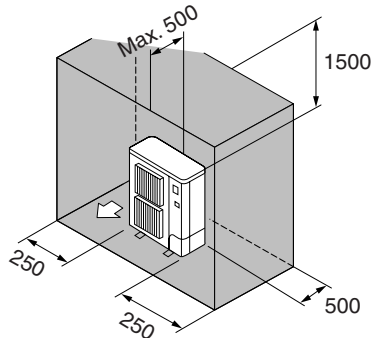

Fig. 3-10
- ⑥ Obstacles at rear, sides, and above only (Fig. 3-10)